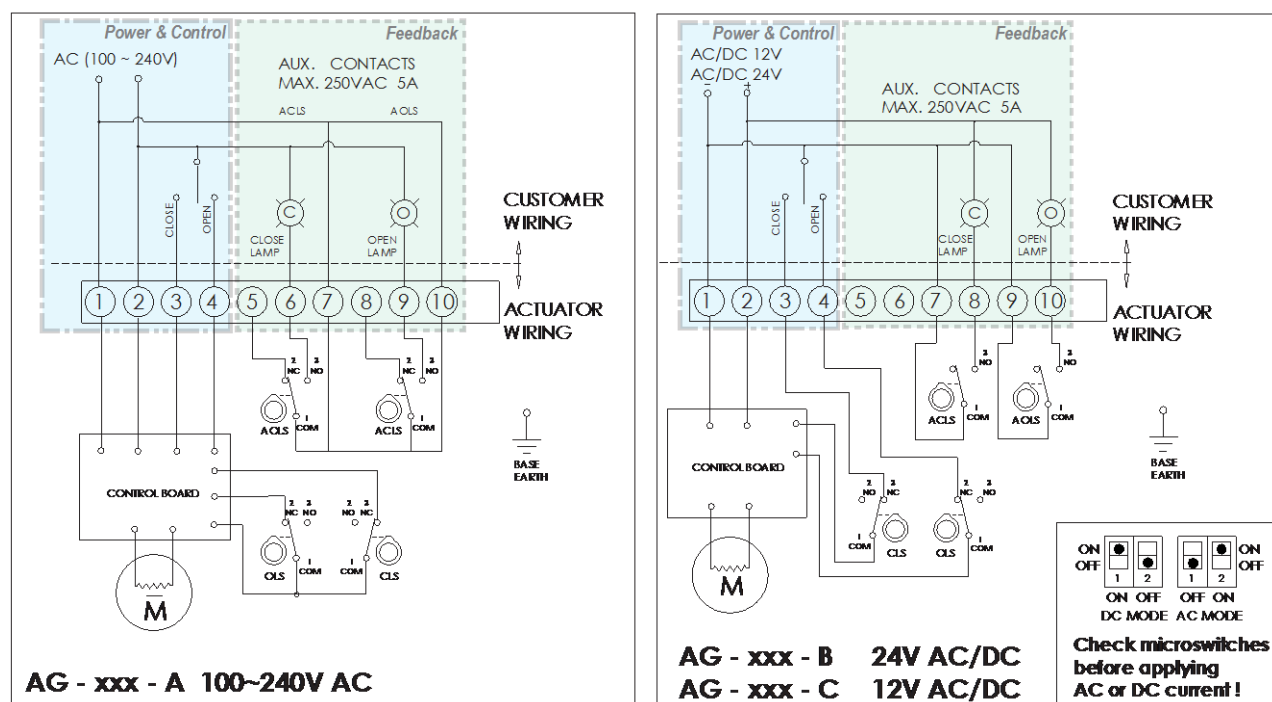

Figure 5a: Wiring diagram (3 point connection)
- 6 **AG – XXX – A (100-240VAC):** Connect terminal 1 and 2 (Figure 5a) to the power supply, it doesn't matter which terminal is connected to the phase signal.
- AG – XXX – B (24V AC/DC) or AG – XXX – C (12V AC/DC:** Connect terminal 1 (Figure 5a) to the negative terminal of the power supply and terminal 2 to the positive terminal of the power supply.